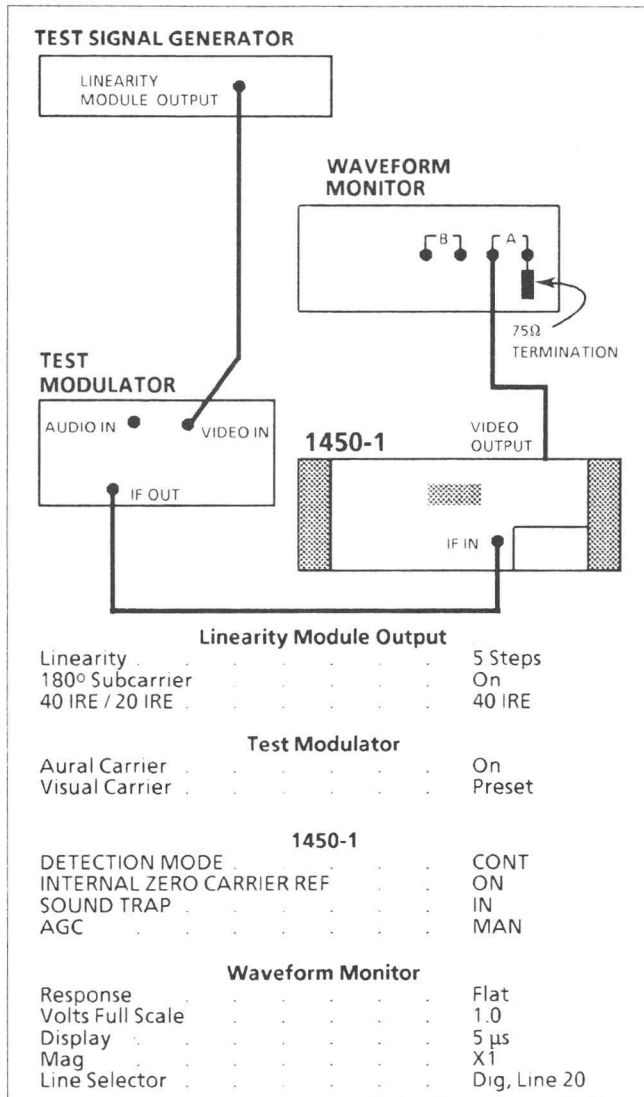

Fig. 4-25. Setup to check External Zero Carrier Reference gate.
- a. Connect and set the test equipment as shown in Fig. 4-25.